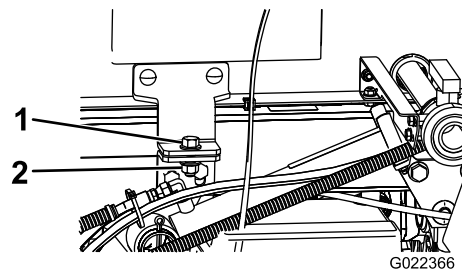

Figure 99
5. Remove the safety bolts from the front of the skid (Figure 99).